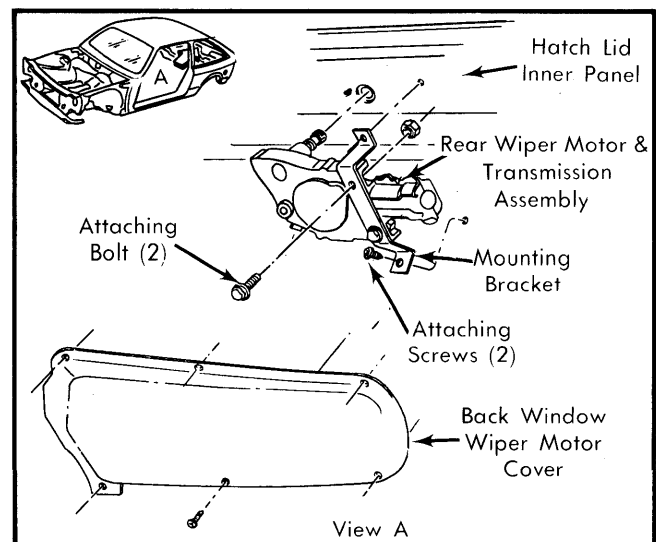

Fig. 4 Removal & Installation of General Motors Liftgate Wiper Motor
**Removal** — Remove 6 screws attaching liftgate wiper motor cover to hatch lid inner panel. Remove 2 bolts and 2 screws attaching wiper motor mounting bracket to hatch lid inner panel. Remove wiper motor and transmission assembly. See Fig. 4.